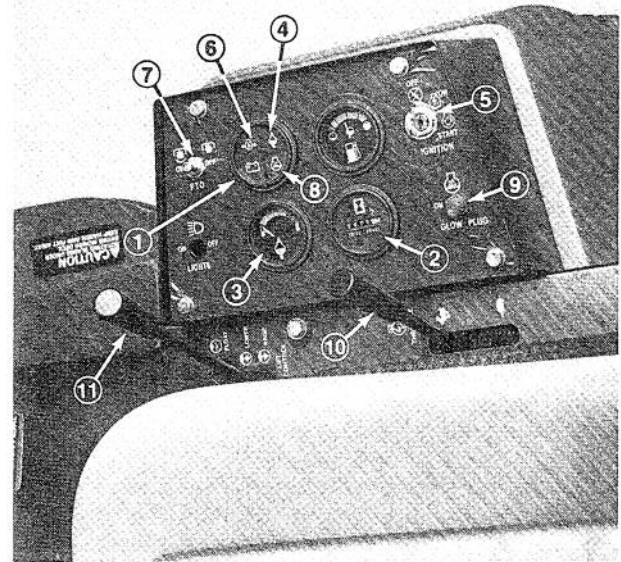

Figure 18
Amp Light (Fig. 18) — The amp light should be off when engine is running. If it is on, the charging system should be checked and repaired if necessary.
Hour Meter (Fig. 18) — Accumulated engine operating time registers on the hour meter.
Temperature Gauge and High Temperature Light (Fig. 18) — The coolant temperature gauge registers the coolant temperature in the system. If the temperature gets too high the engine will automatically shut off and the High Temperature Shutoff Light will light. When this happens, turn the ignition key off, check radiator for debris, check the fan belt and check the expansion tank for proper coolant level. The high temperature shutoff will automatically reset when the coolant temperature has reached a safe level.
Low Oil Pressure Light (Fig. 18) — If engine oil pressure falls below a safe level, the light glows. Stop engine and repair before resuming operation.
PTO Switch (Fig. 18) — Pull up on sleeve on toggle switch handle and move handle to ON to ENGAGE electric PTO clutch. Pull up on sleeve and move handle to OFF to DISENGAGE electric PTO clutch. The only time the PTO switch should be in the ENGAGE position is when the implement is down in operating position and ready to begin operation.
Ignition Key Switch (Fig. 18) — The ignition switch, which is used to start and stop the engine, has three positions: OFF, RUN and START. Rotate key clockwise — START position — to engage starter motor. Release key when engine starts. The key will move automatically to the ON position. To shut engine off, rotate key counterclockwise to the OFF position.
Glow Plug Switch and Indicator (Fig. 18) — Use to preheat engine cylinders prior to cold engine starting procedures — cylinders are preheated automatically during warm engine start operation. For cold starting, push switch lever upward and hold while watching indicator. Indicator will glow orange when the glow plugs are activated. Length of time necessary to preheat cylinders should be determined by atmospheric temperature; refer to Starting/Stopping Engine procedure.
Throttle (Fig. 18) — Throttle is used to operate engine at various speeds. Moving throttle forward increases engine speed — FAST; rearward decreases engine speed — SLOW. The throttle controls the speed of the cutter blades and, in conjunction with traction pedal, controls ground speed of the traction unit.
Hydraulic Lift Lever (Fig. 18) — The hydraulic lift lever has three positions: FLOAT, TRANSPORT and RAISE. To lower cutting unit to the ground, move lift lever forward into notch in seat platform — FLOAT. The FLOAT position is used for mowing and when machine is not in operation. To raise cutting unit, pull lift lever rearward to the RAISE position. After cutting unit is raised, allow lift lever to move to the TRANSPORT position. Cutting unit must be raised when driving from one work area to another.
1. Ensure parking brake is set, PTO switch is in OFF position and lift lever is in TRANSPORT or FLOAT position (Fig. 18). Remove foot from traction pedal and insure it is in neutral.
2. Move throttle control (Fig. 18) to full FAST position.
3. When temperature is below 15°C (60°F), push glow plug switch to ON position (Fig. 18) and hold for suggested interval.
4. Turn key in ignition switch to START position (Fig. 18). Release key immediately when engine starts and allow it to return to RUN position. Move throttle control to SLOW position.